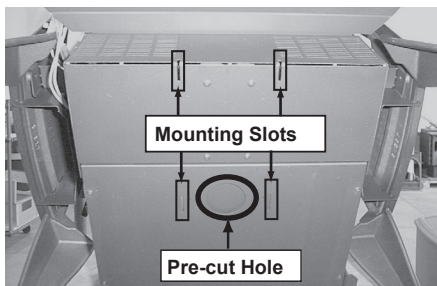

Figure 18.1
1. **Figure 18.1** shows bottom of convection blower mount and pre-cut air vent opening for reference only. Air channel should be mounted with appliance in upright position.